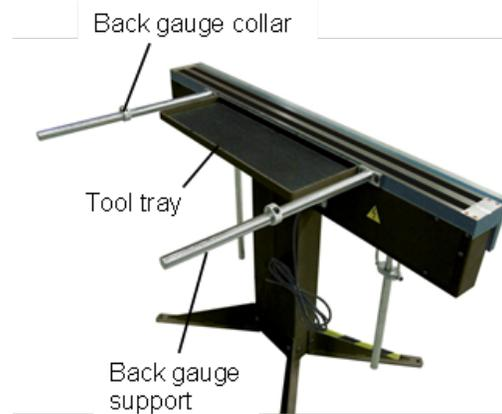

Figure 6-6
- Attach the tool tray to the back of the brake using (3) M8x12 socket cap screws and (3) lock washers.
- Attach each back gauge bar to the brake with (2) M8x16 socket cap screws and (2) lock washers.
- Slide a back gauge collar onto each bar as shown in (fig. 6-6).